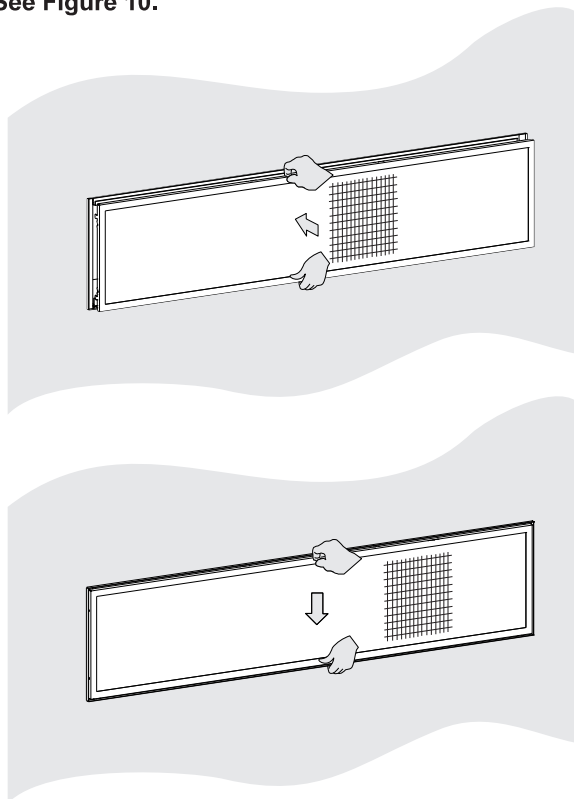

Figure 10
- Reinstall the Barrier Screen onto the fireplace by lining up the tabs with the slots in the firebox. Push the barrier screen toward the unit and lower it slightly to lock in place. See Figure 10.